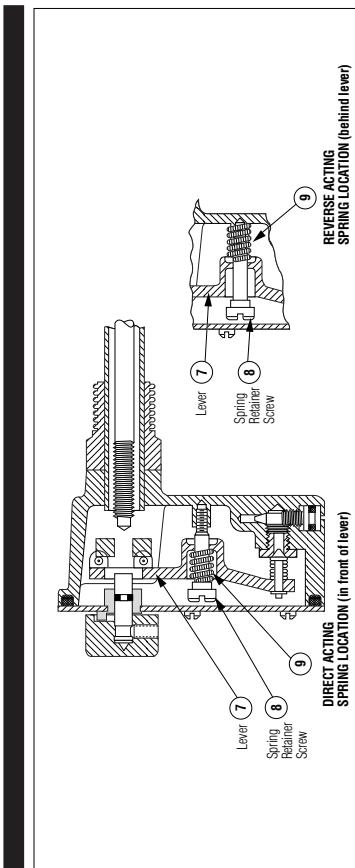

Figure 6.
(See Figures 6 and 7)
3. Install screws (3) and gaskets (2) on water-operated controller.
4. Install parts (8) and (9). (Note relationship for direct and reverse acting. See Figure 6.)
5. Back out adjustment screw (5) until collar (9) touches the pivot on the lever (7).
6. Install cover plate (2).
7. Install adjustment knob with set screw (3). The knob indicator (white line on sides of knob) should be opposite the dial marking corresponding to the room temperature. Tighten the knob set screw very firmly.